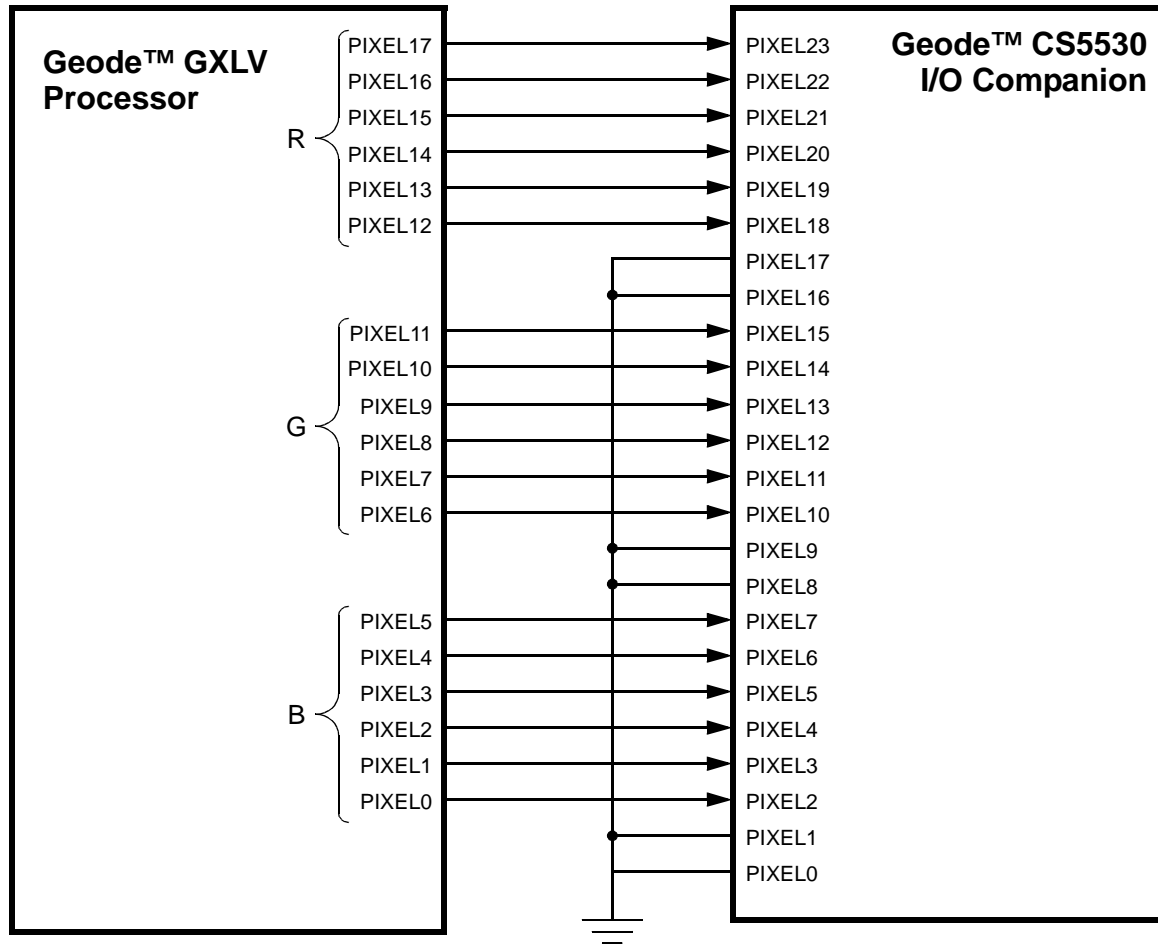

Figure 1-5. PIXEL Signal Connections
**Note:** Refer to Figure 1-5 for interconnection of the pixel lines.